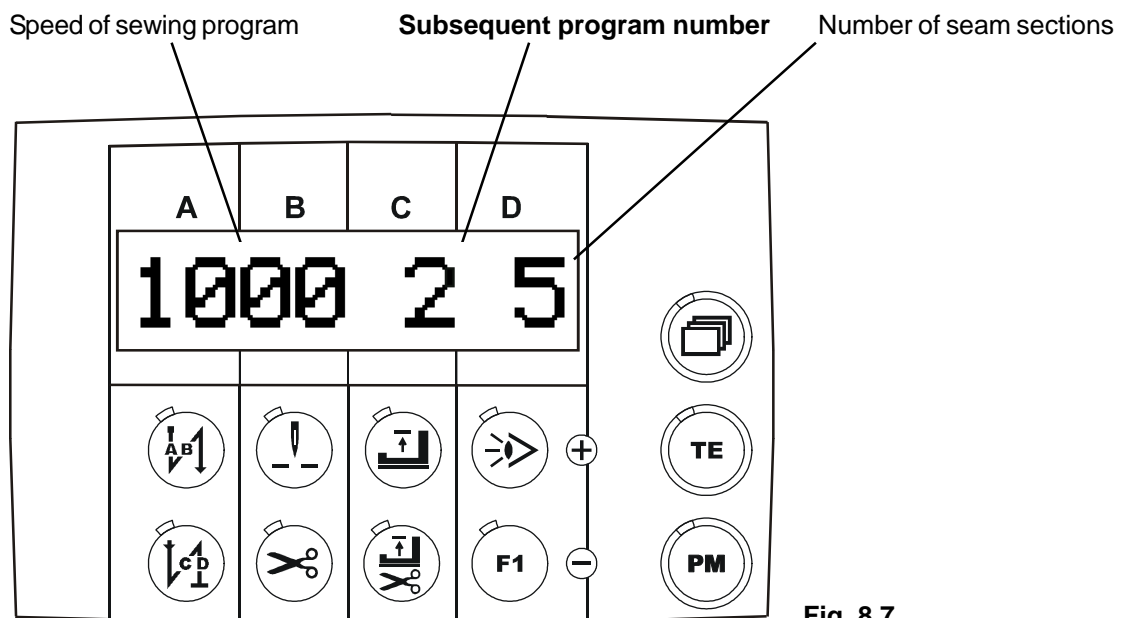

Fig. 8.7
- 6.4 Press the **paging key** until the display **Fig. 8.7** appears